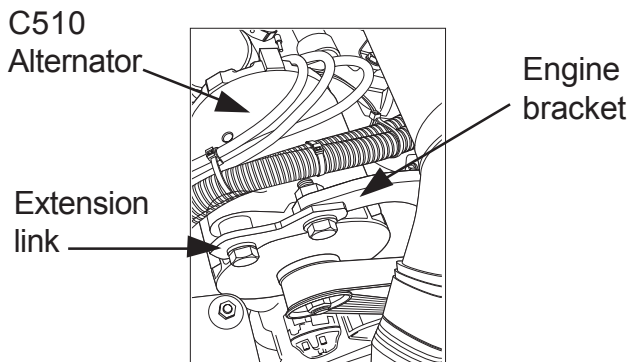

Figure 1 Extension Link removal
3. Remove extension link connecting alternator to engine bracket. Discard link. See Figure 1.